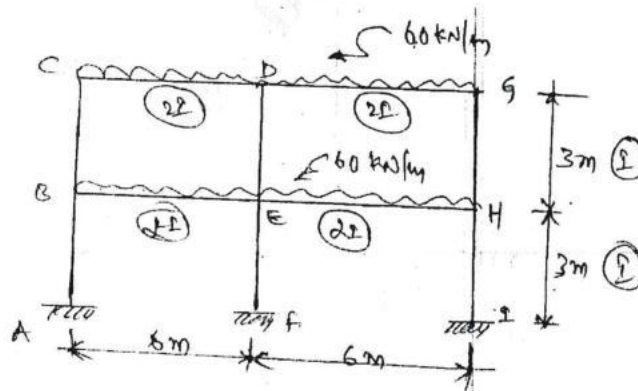

Fig. Q6
- 6 Analyse the portal frame shown in Fig. Q6 by Kani's method. Draw bending moment diagram. (20 Marks)